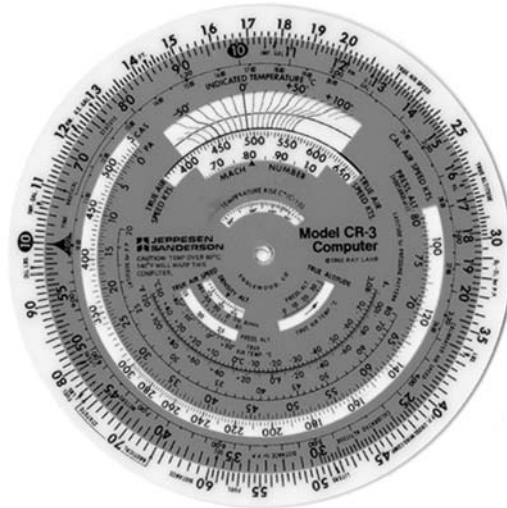

Figure 4.3-25 Fuel Consumption 2
3. Convert 1 hour 45 minutes to 105 (60 + 45) on the TIME (inner) scale and read the amount of fuel consumed on the FUEL (outer) scale. (Figure 4.3-25)